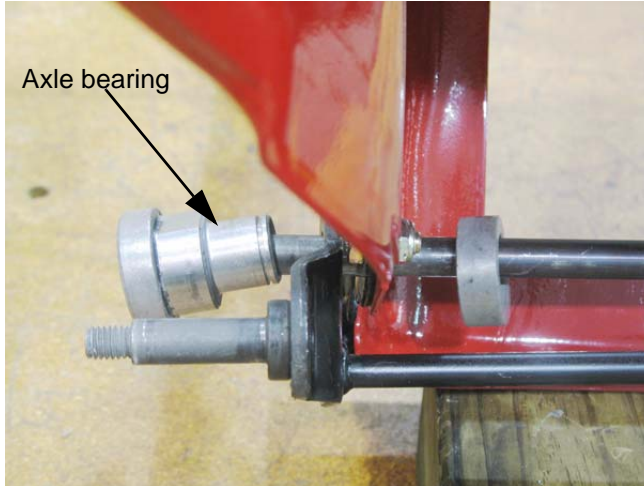

Figure 6.11
- 4a. With the axle bearing assemblies free of the deck, the axle will move, but the transmission is still attached to the deck. See Figure 6.11.